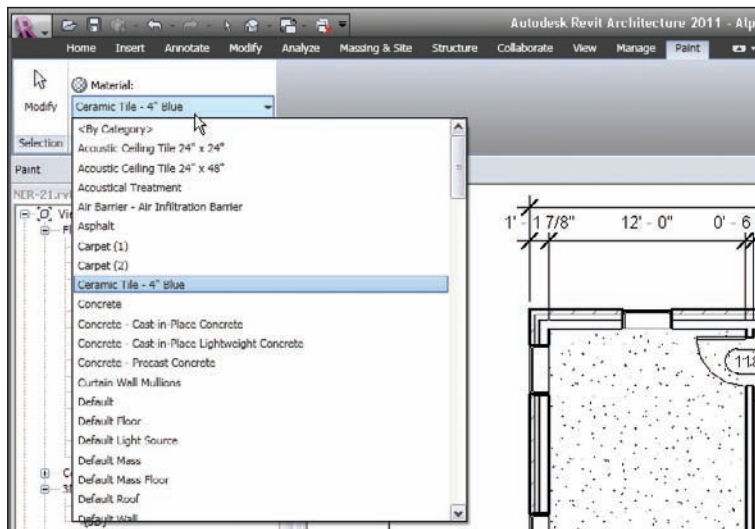

FIGURE 6.43 Finding the correct material
2. From the Material drop-down list in the Element panel, select Ceramic Tile - 4" Blue from the menu, as shown in Figure 6.43.